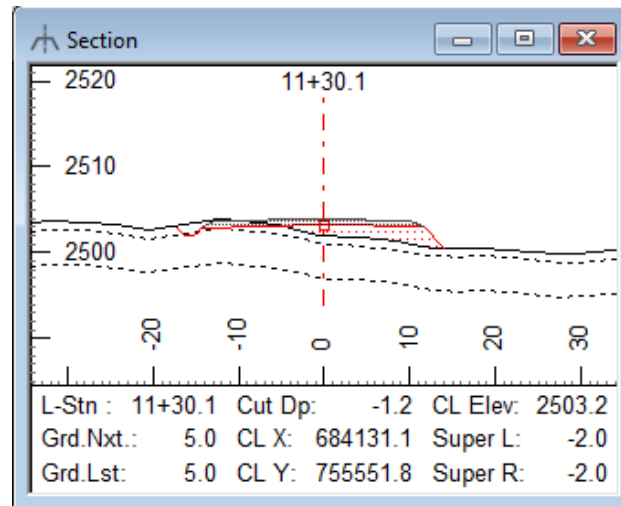

Figure 15-5: Ground Layers Depicted in the Section Window
- Look at your Section Window. Notice that the new ground layers are displayed as in the Figure 15-5.